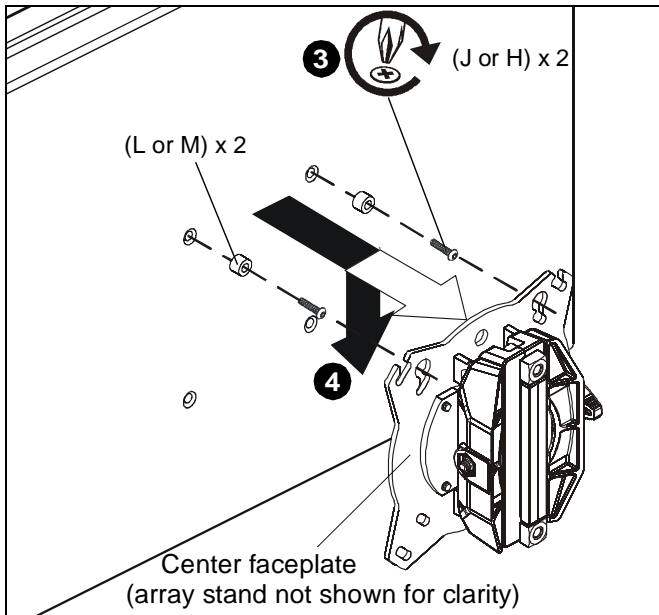

Figure 7
3. Using Phillips screwdriver, carefully install two selected screws (J or H) through selected spacers (L or M) into the *upper* mounting holes on the display. Thread screws completely into display, then back out 3 complete turns. (See Figure 7)
4. Pick up and align display so that screws (K) (installed on the back of the display in the previous step) fit into the mounting holes on the faceplate. Lower the display firmly into place. (See Figure 7)